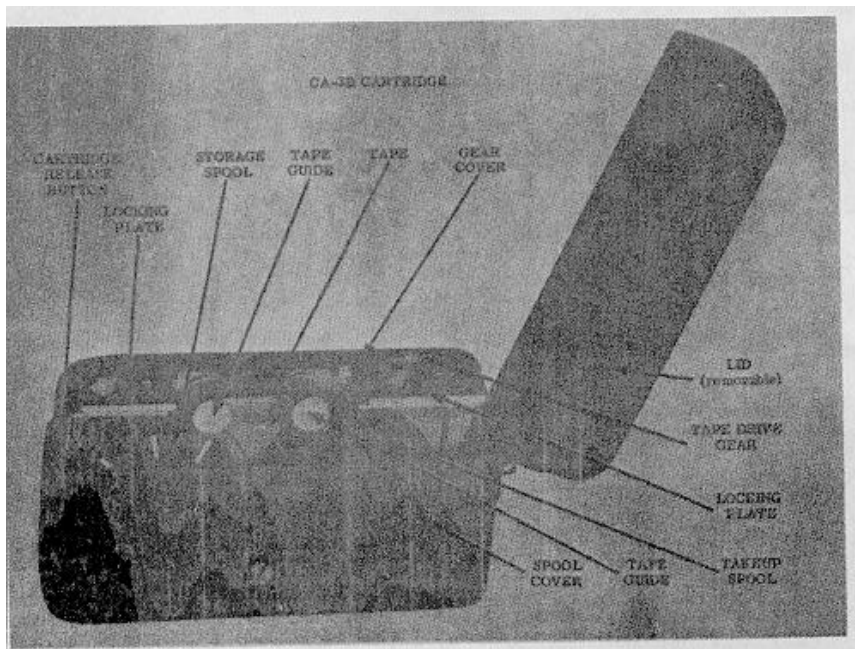

Figure 1-5. CA-3B Cartridge.
1.2.4 CA-B Cartridge (MA-9/GRA-71). Essentially, the CA-B Cartridge (fig. 1-5) is a mechanical device consisting of a miniature tape transport and magnetic recording tape.
When necessary to replace the recording tape in the CA-3B cartridge, refer to figures 1-5, 2-5, and 3-8 and proceed as follows: